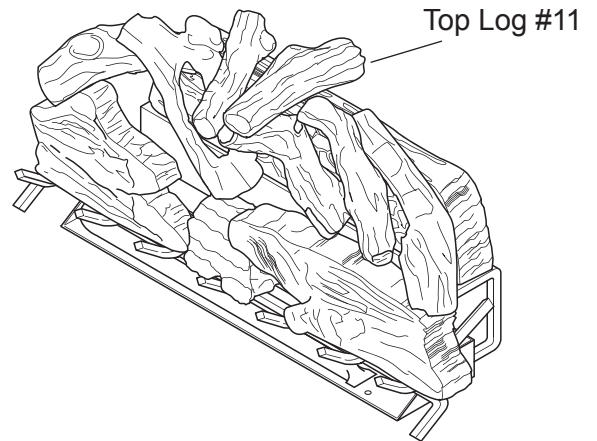

**Figure 16 - VWF36MO Log Placement
1. Slide shield plate down back of burner pan. See Figure 16.
2. Center rear log #1 on grate bars and flush with rear of the grate. See Figure 16.
3. Place front left log #2 in front of the plate and to the left. See Figure 16.
5. Place front right log #4 in front of the plate and to the right. See Figure 16.
6. Install left side log #5. See Figure 16.
7. Install right side log #6. See Figure 16.
8. Install right side middle log #7. See Figure 16.
9. Install top log #8. See Figure 16.
10. Install top log #9. See Figure 16.
11. Install top log #10. See Figure 16.